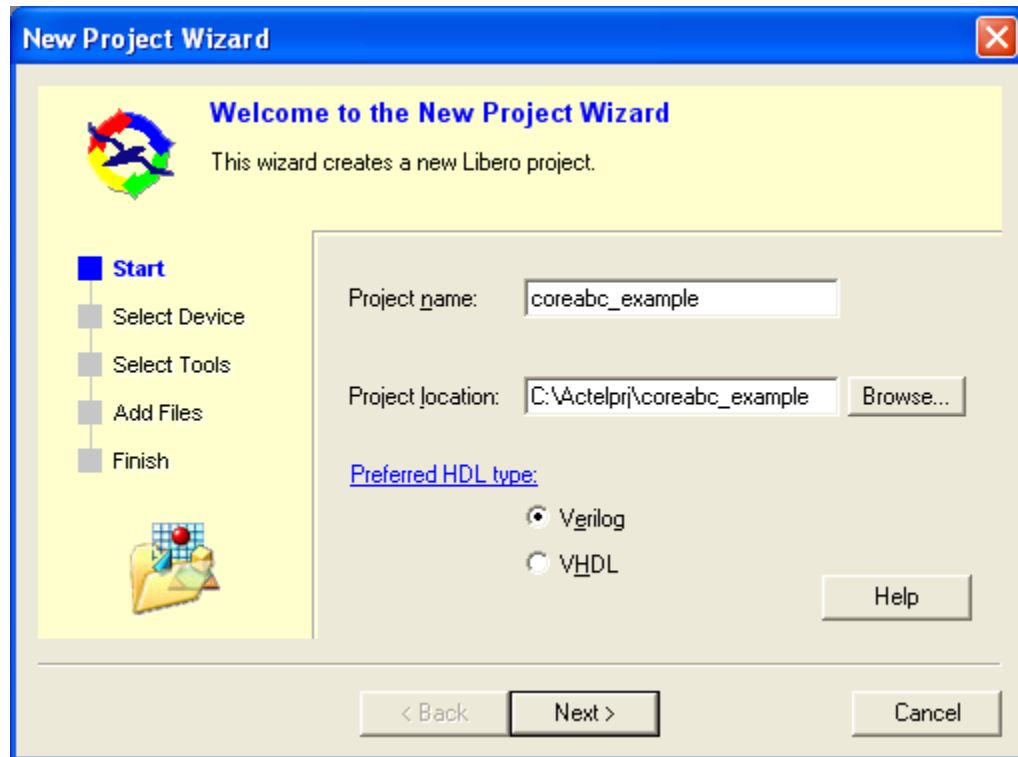

Figure 9-2 • New Project Wizard
1. Start Project Manager and select **Project > New Project**. The New Project Wizard will appear. Enter **coreabc_example** as the project name and select **Verilog** as the preferred HDL type, as shown in Figure 9-2.